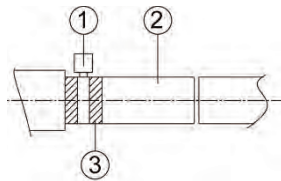
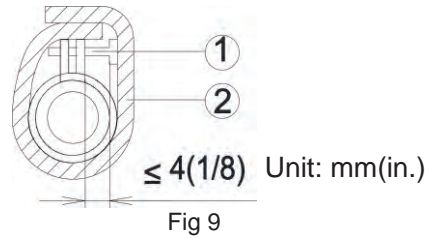

Fig 8
Fig 9
1. Insert the drain hose into the drain hole and tighten it with tapes, as shown in Fig 8.
- ① metal clamp(accessory)
- ② drain hose(accessory)
3. Use sealing plate to make the pipe clamp and hose insulated, as shown in Fig.9.
- ② thermal sponge(accessory)